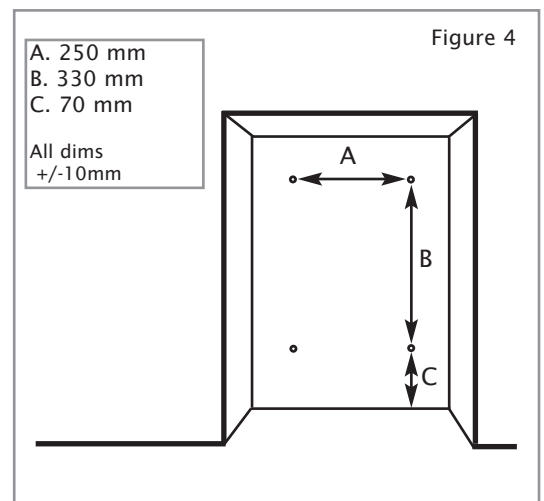

Figure 4
**Cable fixing:** Drill four holes as shown in figure 4 and fit the wall plugs. If the fireplace does not allow for the exact layout shown, the eyebolts should be fixed to give a similar configuration as possible. To complete the cable fixing of the convector box, refer to section 8.3.